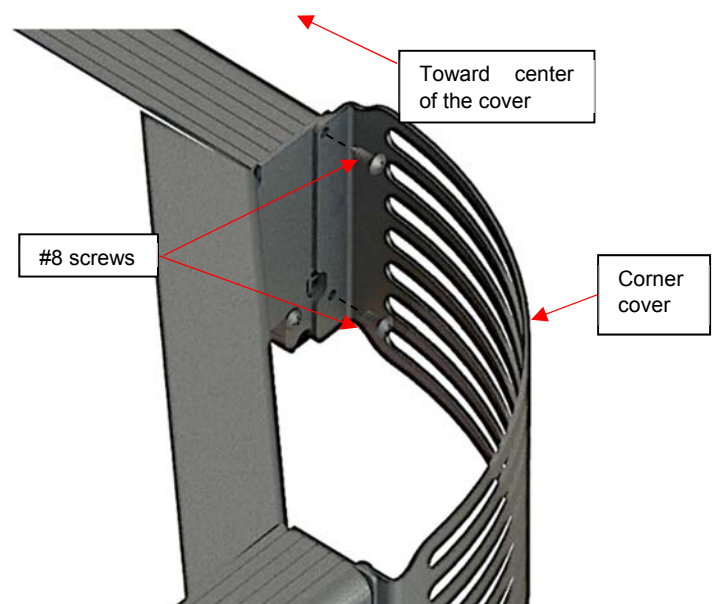

Figure 31
32) Orient the corner cover piece and screw it in completely with the last two screws on the side toward the center of the cover. Use the Robertson sheet metal #8 x 1/2" screws. (Figure 31)